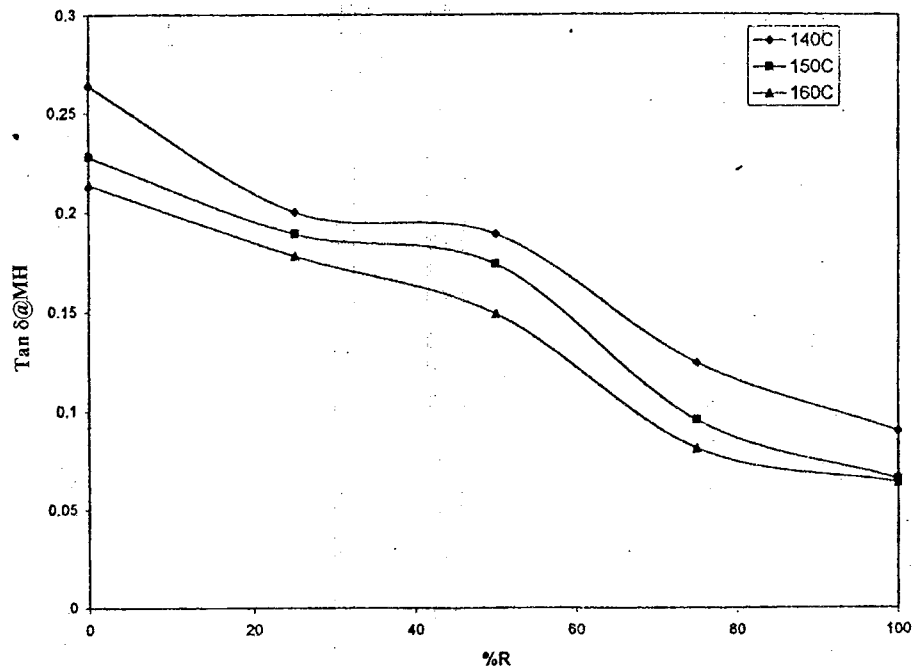

Figure 1: The relationship between  $\tan \delta$  at MH and ENR 50 composition (% R) for various SBR/ENR 50 blends at different curing temperatures.
- [b] Figure 1 shows the relationship between  $\tan \delta @ \text{MH}$  and ENR 50 composition (% R) for various SBR / ENR 50 blends at different curing temperatures. Explain the results obtained.